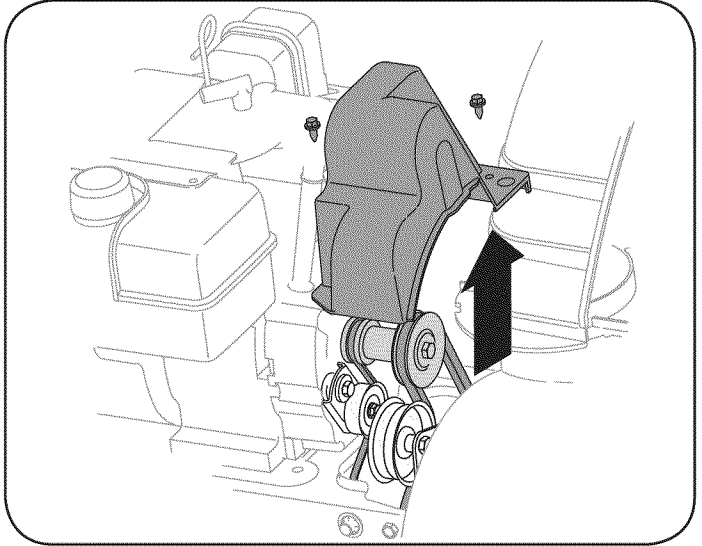

Figure 22
2. Remove the plastic belt cover on the front of the engine by removing the two self-tapping screws. See Figure 22.
- Remove the plastic belt cover on the front of the engine by removing the two self-tapping screws. See Figure 22 on previous page.